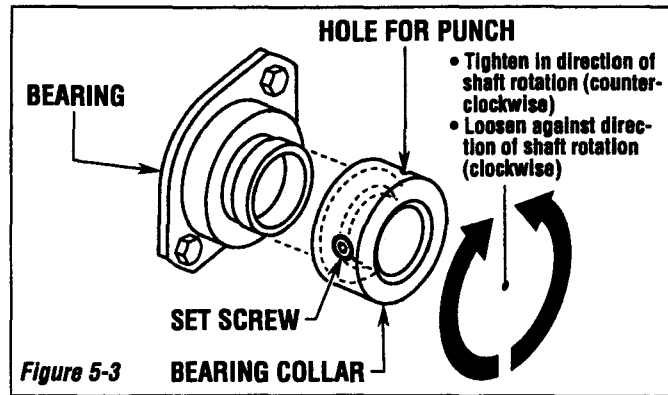

Figure 5-3
5. Loosen set screw that secures bearing locking collar on cylinder shaft (located under cylinder pulley). Remove the locking collar from the cylinder shaft by turning the collar against the direction of the shaft rotation. Use a hammer and a punch to loosen the collar (Figure 5-3).
- Install the locking collar removed in Step 5 of *Cylinder Assembly Removal*, onto the pulley end bearing on the cylinder shaft. Lock the collar down by turning the bearing flange counter-clockwise with a hammer and punch (Figure 5-3). Apply Loctite® 242 (or equivalent) removable thread sealant to the collar set screw. Tighten the set screw to lock the collar down against the bearing flange. Allow the sealant to cure for 24 hours before using the unit.